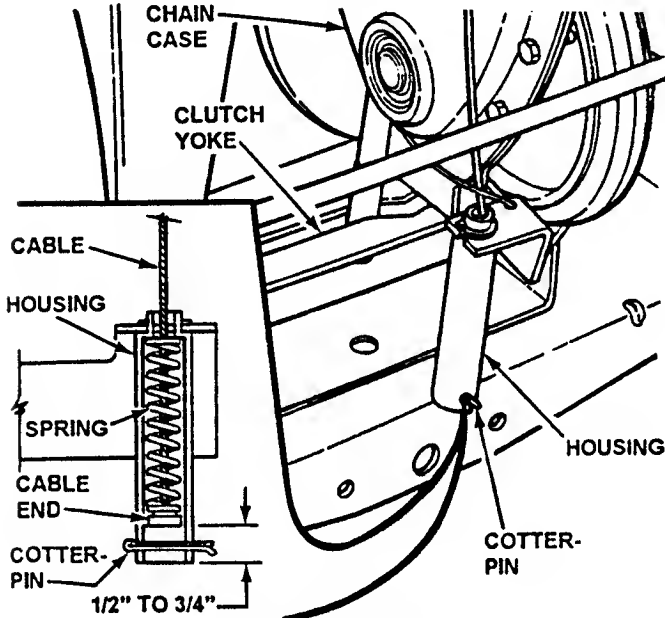

FIGURE 4.18
3. Measure the distance between end of clutch/brake cable and bottom of housing. Measurement should be no less than 1/2" and no greater than 3/4". See inset, Figure 4.18.
5. Adjust cable up or down using the jam-nuts to obtain a distance of 1/2" to 3/4" between end of clutch/brake cable (adjustment shown in inset, Figure 4.18) and bottom of housing. Refer to Figure 4.18.
5. Rotate clutch yoke (clutch yoke shown in Figure 4.18) out with your hand and work belt between drive and driven discs.